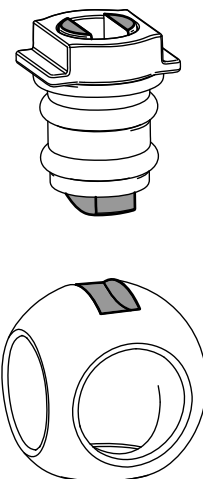

Figure 118
6. Insert the ball into the valve body (Figure 118).
Note: The valve stem should fit inside the ball drive slot. If the valve stem does not fit, adjust the position of the ball (Figure 118).